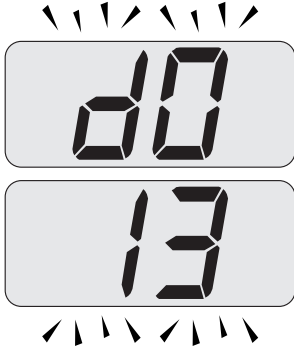

Fig. 2.2
In order to activate, press keys 14 and 16 together to access the "INFO" menu. The display displays the value "d0" that alternates with the pressure value "13" (1,3 bar). The number indicating the pressure, is displayed without decimal points while the letter indicates the unit of measure (bar) Fig. 2.2.
If the pressure reading on the pressure gauge is below that shown in Fig. 2.2, then the system will require topping up. A filling loop is normally provided by the Installer for
- Open the valves of the filling loop and watch the display until it reaches normal filling pressure as shown in Fig. 2.2.